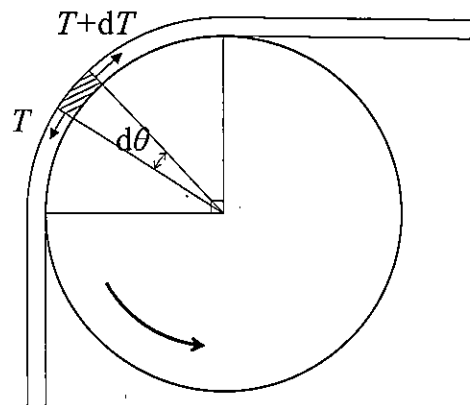

Figure 10-2
- (1) Consider a very small element with an angle $d\theta$ as shown in Figure 10-2. In the very small element, the flat belt tensions T and $T+dT$, and the friction force of the contact surface between the flat belt and the pulley are balanced. Find the balance of forces in the very small element. The friction coefficient of the contact surface between the flat belt and the pulley is μ_1 .
- (2) Estimate the friction coefficient μ_1 using L and M .